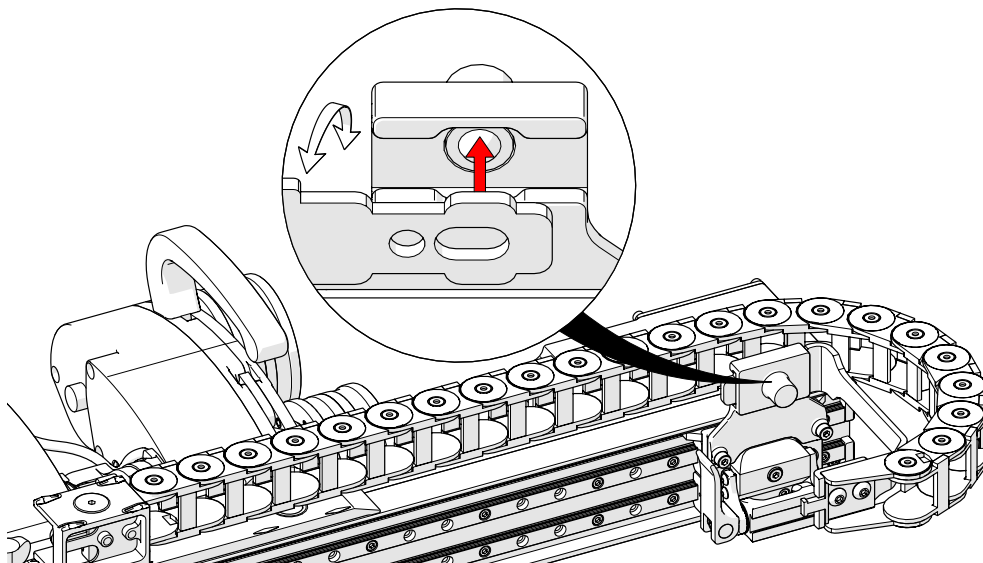

Fig. 108 - Press bracket to carriage
2. Press the cable tray bracket into the rear of the carriage bracket (Fig. 108).